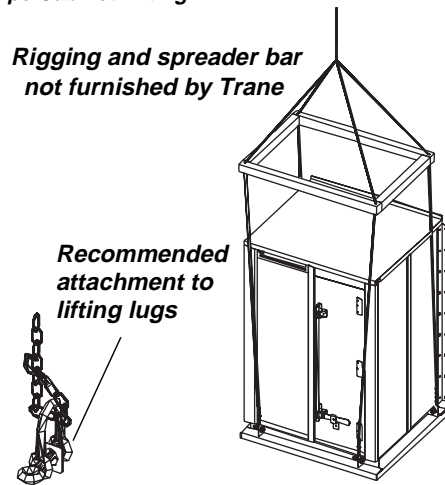

Figure 4
- 2 Lift all sections individually using all lifting lugs provided and shown in *Figure 4* . See specific instructions for handling the inlet and exhaust hoods and pipe chase in paragraphs following.